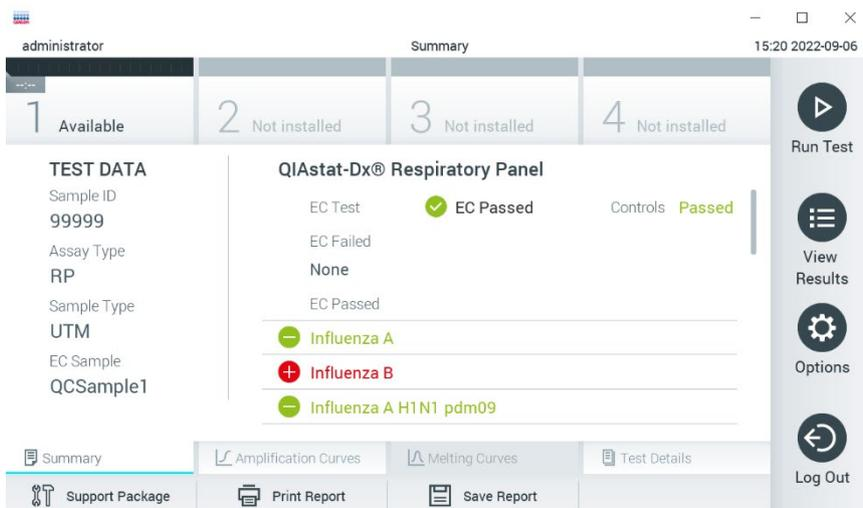

Figure 97. EC Results Summary screen.
12. After the QIAstat-Dx assay cartridge has been ejected, the results **Summary** screen will appear (Figure 97). Refer to Section 8.3 for further details.